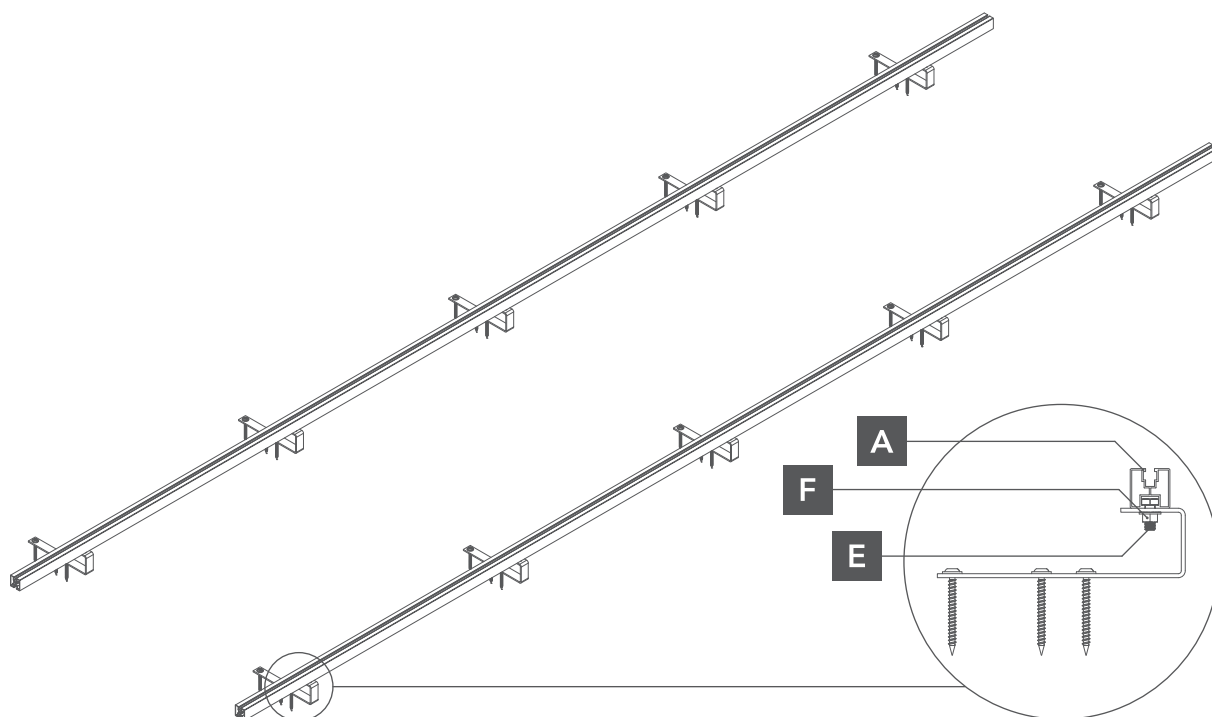

Fig. 6. attachment of the mounting rail to the roof mounting handle.
- 5** After that, the DIN 6923 M10x25 bolt should be passed through one end of the mounting rail, made to fit the roof bracket and fastened with the DIN 6923 M10 nut (Fig. 6).